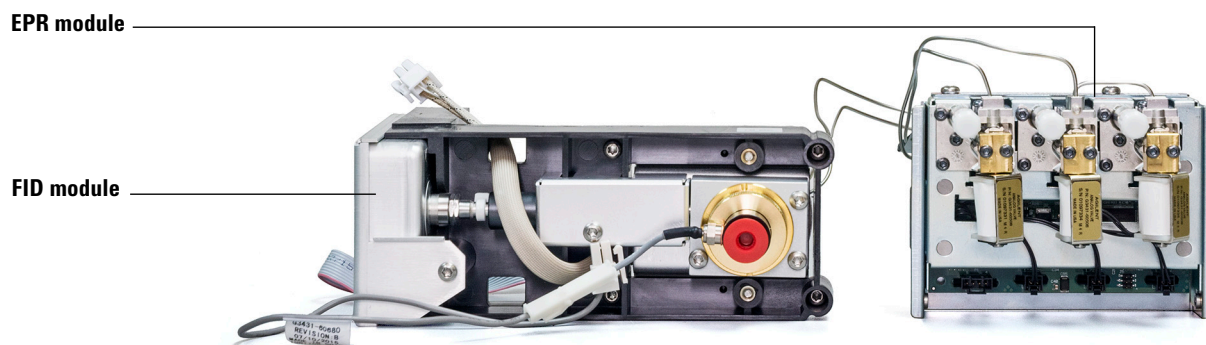

Figure 1 FID parts identification
- 1 Carefully uncoil the tubing between the detector body and its EPR module (see Figure 1 on page 3). Lay the entire assembly on the oven top with the detector near its intended location and the EPR module near its associated location in the EPR module bays.